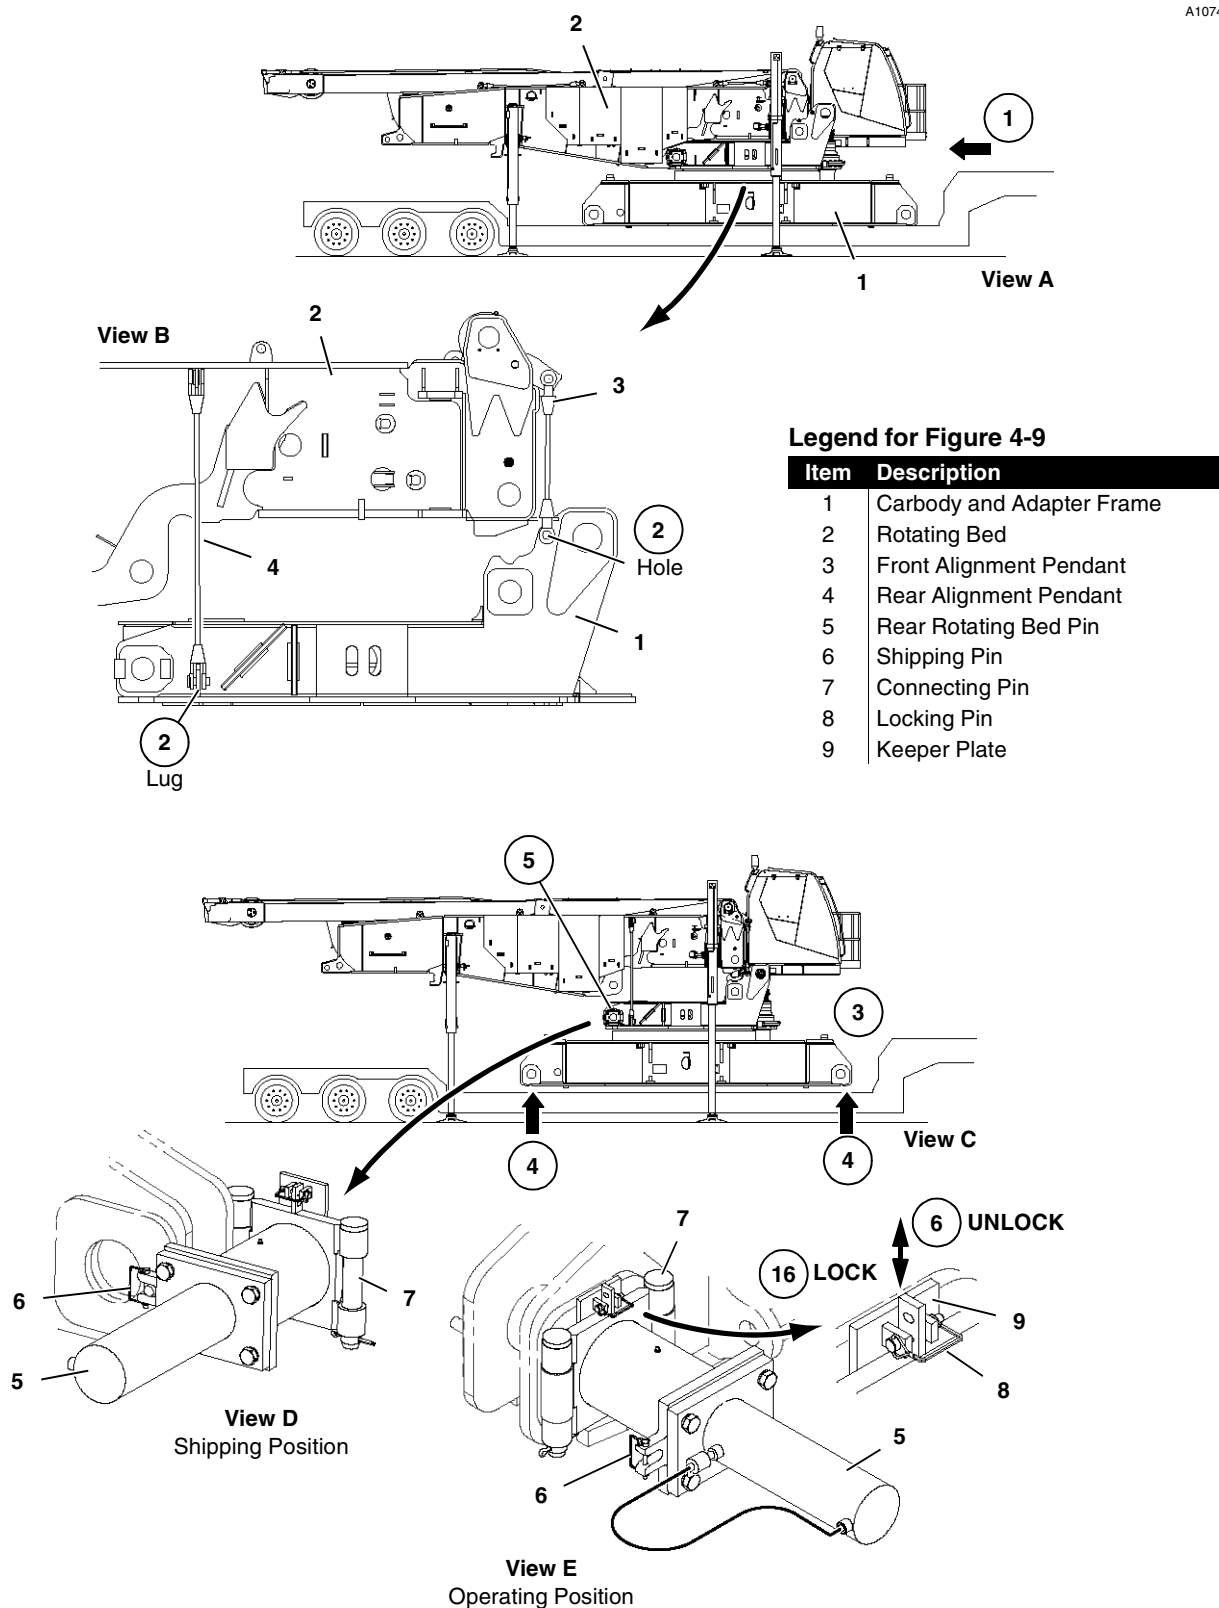

FIGURE 4-9
**NOTE:** Circled numbers in Figure 4-9 correspond to following steps.
See Figure 4-9 for following procedure.
FIGURE 4-9 continued